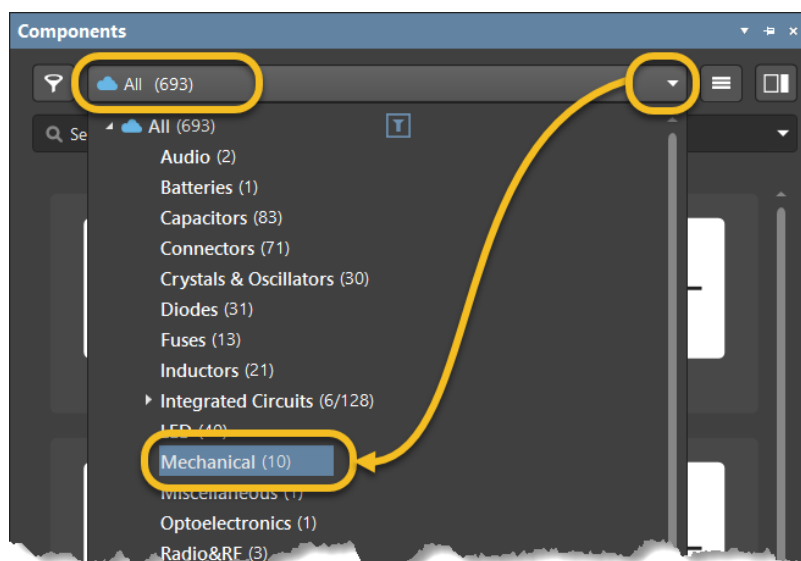

Figure 20. Mechanical components in the Components panel
45. From the library drop-down menu, select category *Mechanical*, Figure 20.